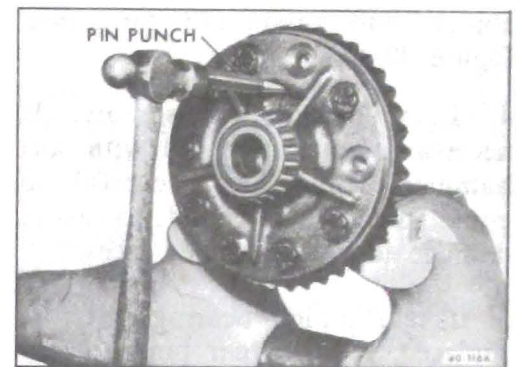

Figure 40-95 - Removing Pinion Shaft Roll Pin
2. Remove roll pin that retains differential pinion shaft. See Figure 40-95. Remove differential pinions, side gears and thrust washers from case.